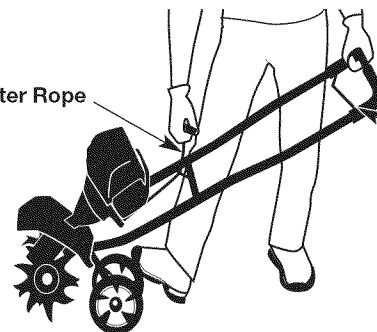

Fig. 7
**WARNING:** Avoid accidentally starting the unit. To avoid serious injury, the operator and the unit must be in a stable position when pulling the starter rope (Fig. 7).
5. Stand in the starting position (Fig. 7). Hold the handlebar with one hand. Hold the starter rope with the other hand. Use one foot to hold the wheels in place.